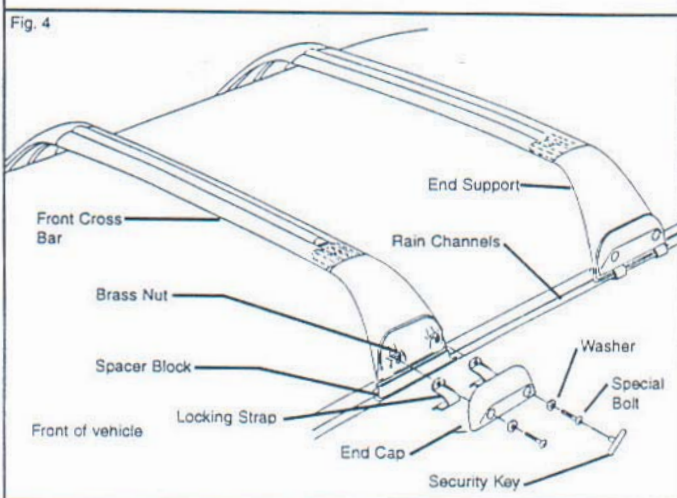

Fig. 4
- 5 Fit Spacer Blocks in the rain channels where the Cross Bars are intended to go (Fig. 4). NOTE: Spacer Blocks should be omitted if Bolts are unable to engage into Brass Nuts.